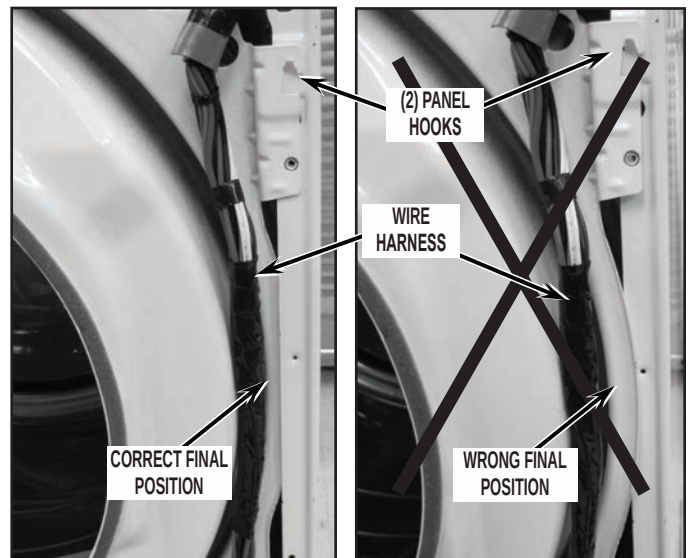

FIGURE 36
4. Swing the front bulkhead to the dryer front and reattach the two (2) wire harness clips to the front of the front bulkhead. When re-hanging the front bulkhead to the dryer, make sure the wire harness is not getting pinched and the mid-section of the front bulkhead edge is behind the side panel edge. See *Figure 36* as well as *Figure 13*.